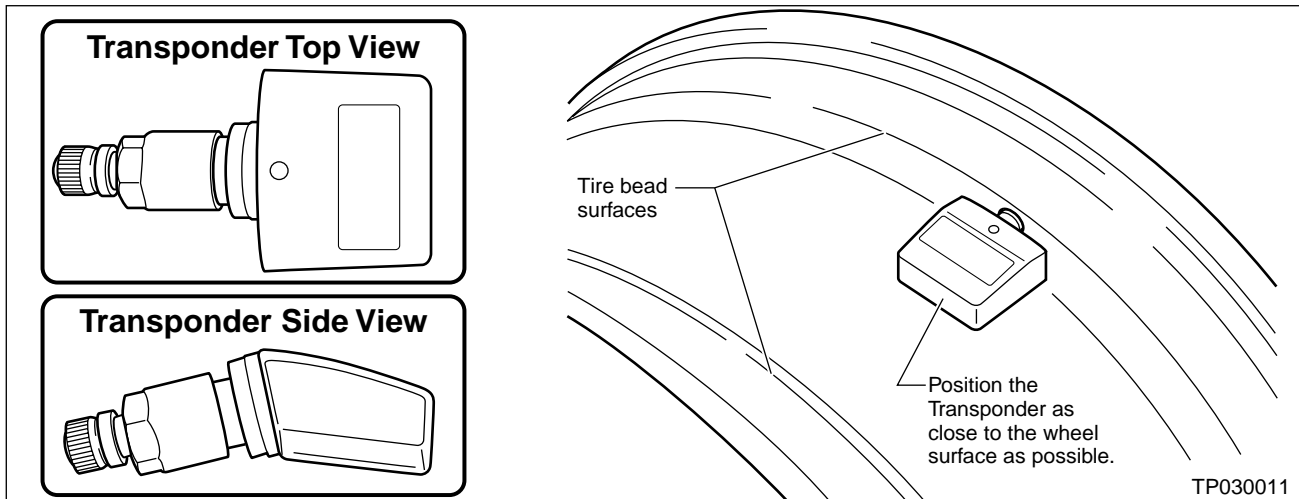

Figure 11
- When remounting tires, make sure the TPMS Transponder is positioned as close to the wheel surface as possible (see Figure 11).